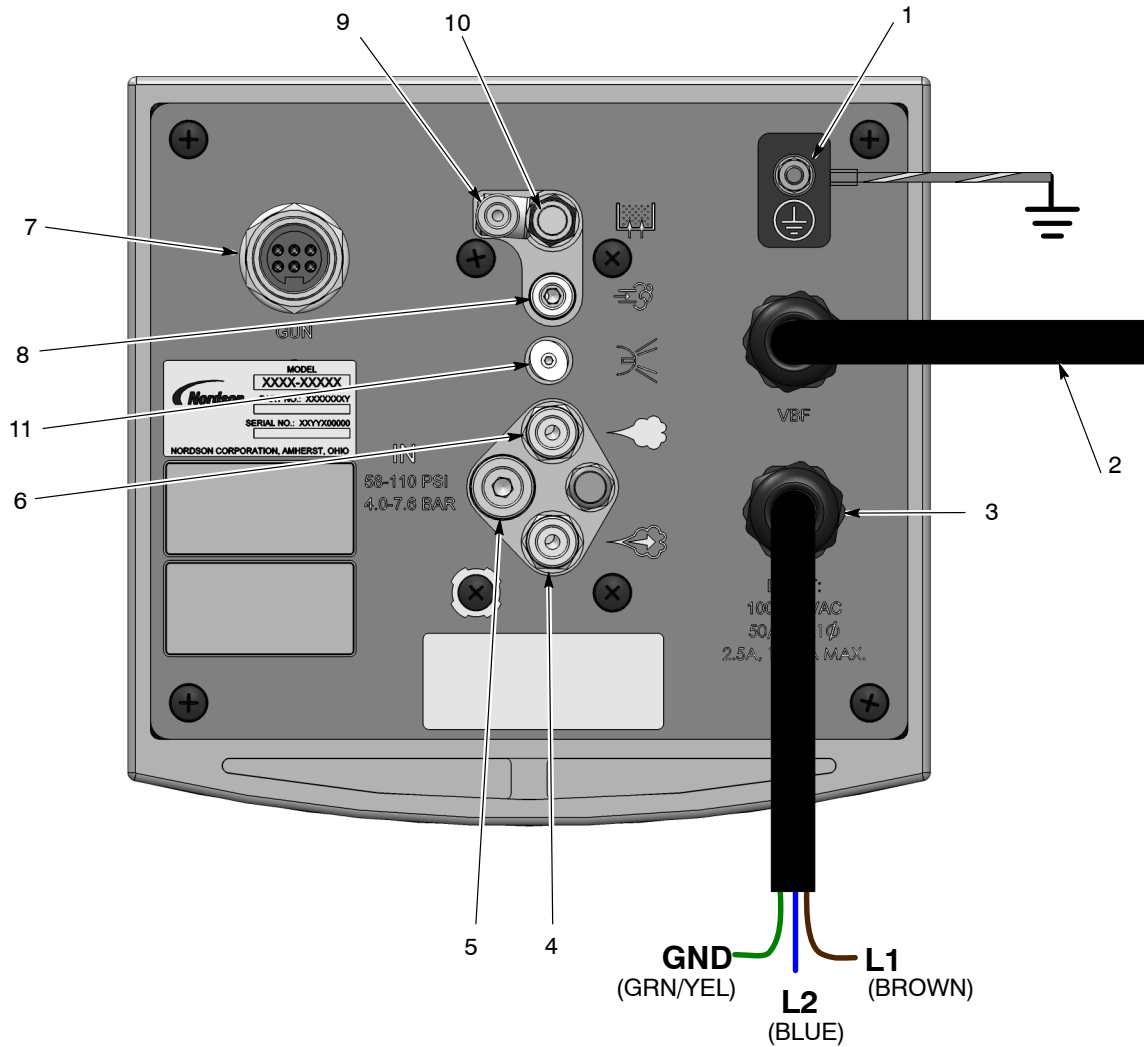
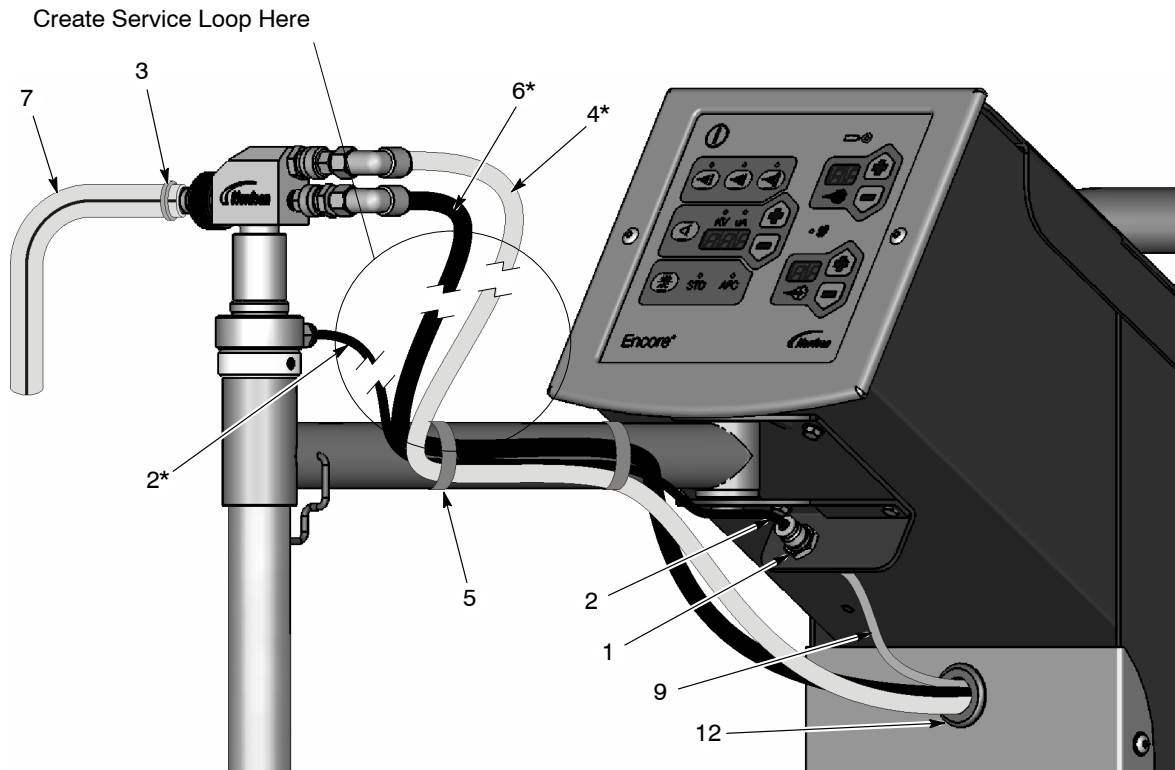

Figure 3-4 Encore LT Gun Controller Connections
Figure 3-8 Encore LT Gun Pickup Tube and Pump Installation
7. See Figure 3-4. Plug the shorter lengths of the tubing into the controller:
- 8-mm blue atomizing air tubing (4)
- 8-mm black flow-rate air tubing (6)
- 6-mm blue fluidizing air tubing (9)
8. See Figure 3-8. Route the tubing (4, 6, 9) through the grommet in the front panel of the cart tower as shown.
- 8-mm blue atomizing air tubing (4) to the pump top fitting
- 8-mm black flow-rate air tubing (6) to the pump bottom fitting
- 6-mm blue fluidizing air tubing (9) to the bulkhead union (1)
- 6-mm black fluidizing air tubing (2) to the union and pick-up tube.
- powder hose (7) to the pump—secure with hose clamp (3)
3. See Figure 3-4. Plug the following into the controller: